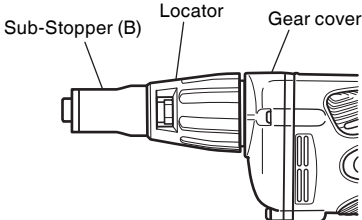

Fig. 2
5. Adjusting the tightening depth (Fig. 2)